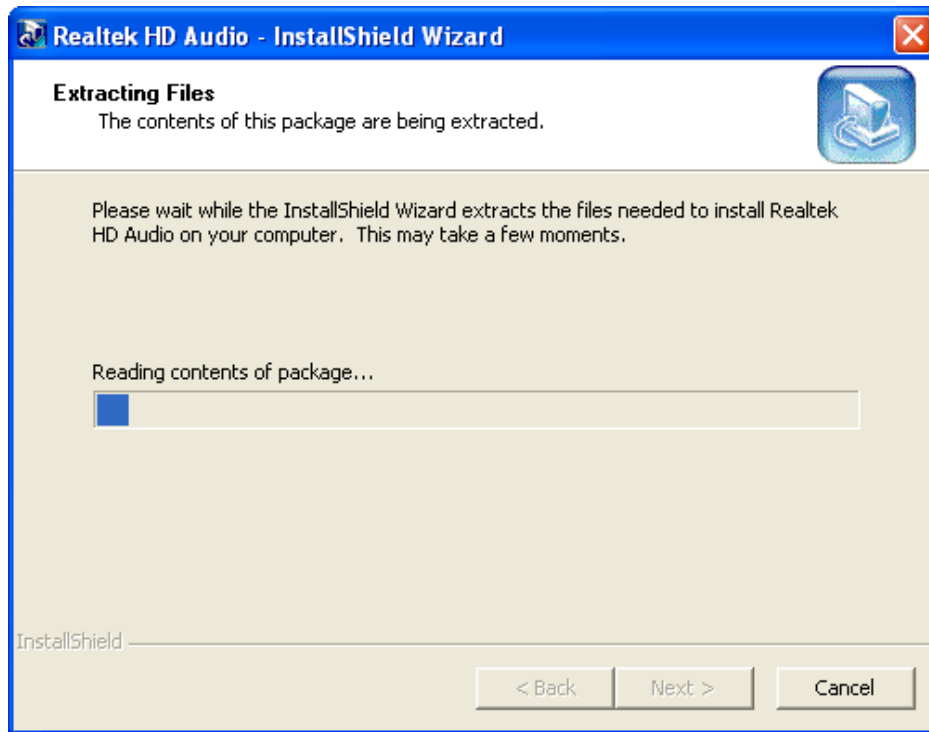

Figure 7-22: Extract HD Audio Driver Installation Files
Step 2: Installation files are extracted as shown in Figure 7-22.